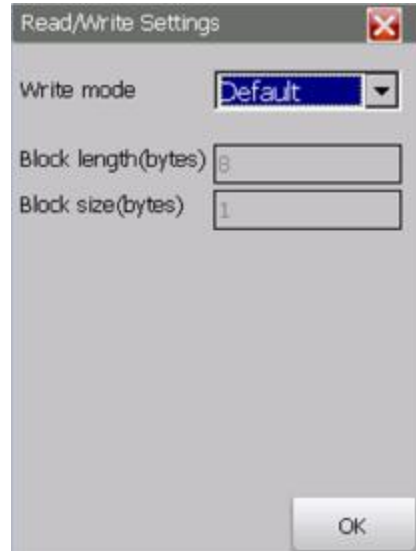

Figure 2-8 Read/Write tag
- | Option: click to jump into another interface shown as figure 2-8.